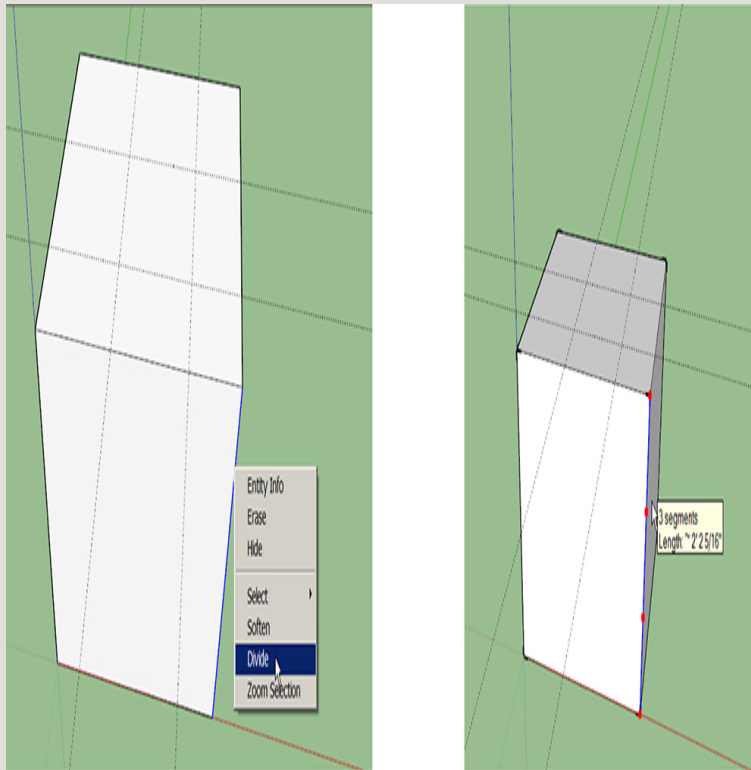

Figure 3-8 Divide a vertical line into three segments.
5. Divide a vertical line into three parts (Figure 3-8). We'll need their endpoints to inference heights. Right-click a line and choose Divide. A bunch of red points along that line will appear. Move the cursor up and down the